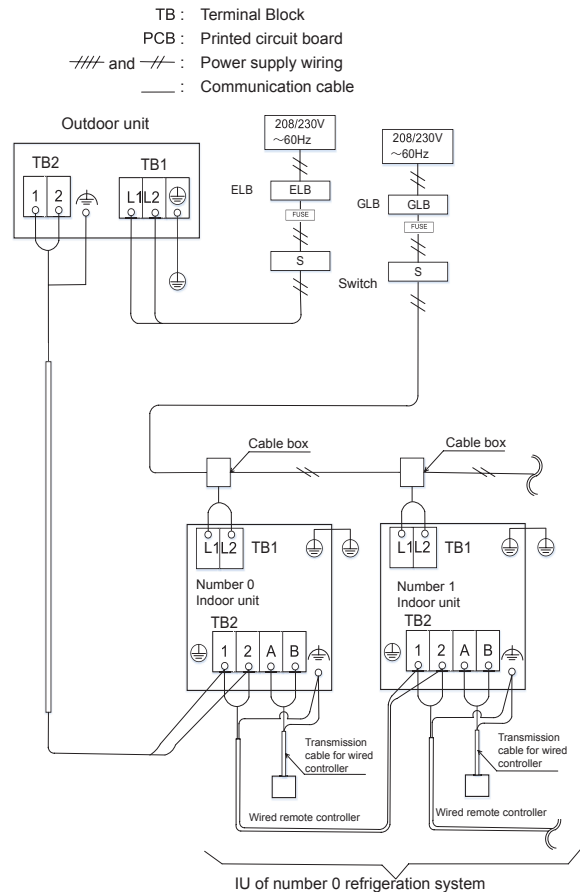

Fig. 9.1 (a) Wiring connection for indoor & outdoor
- (1) Connect the power supply wires to the terminal board in the electrical control box of both outdoor unit and indoor unit. And connect the earth wire to the electrical control box of outdoor unit. In addition, connect the earth wire to earth screw in the electrical control box of indoor unit. Refer to Fig. 9.1
- (2) Connect the wires between the outdoor and indoor units to terminals 1 and 2 on terminal board. If power supply wiring is connected to 1 and 2 of terminal board, printed circuit board will be damaged.